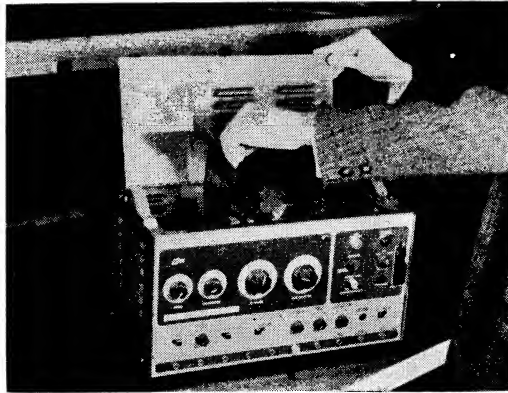

Figure 3—Inserting slide in TV Analyst
3. Lift cover of Analyst and insert test pattern slide into slide track. Push slide all the way. See Fig. 3. When viewing the slide from the left side of the instrument, the word "FRONT" should read correctly as it is being dropped into the slide track.